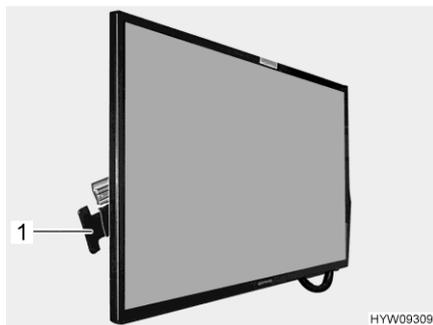

Fig. 86 Flat screen
- Press handle (Fig. 86,1) towards the flat screen and hold it there. The flat screen is unlocked.